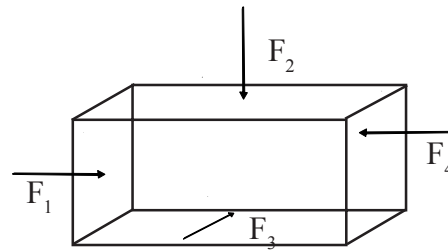

Fig.2.3
- b) Non-Coplanar Forces: The forces, whose lines of action do not lie on the same plane are called as non-coplanar forces. (Fig.2.3)